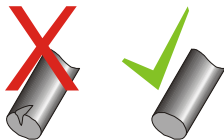

Figure 1. Edge of lead must be free of chips or nicks
2. Hold the pencil at 90° to the abrasive paper and rub the lead until a flat, smooth and circular cross-section is achieved. Ensure that the edge is free of chips or nicks (Figure 1).